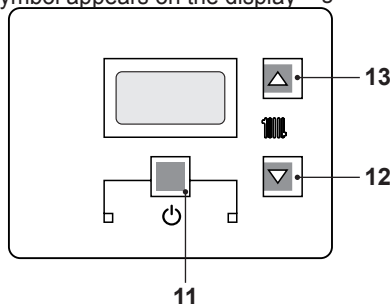

Fig. 7.11
- Press the 11 key for 2 seconds until  symbol appears on the display Fig. 7.11.
- Switch off the boiler by pressing the 11 (Fig. 7.11) key for 2 seconds until the  symbol appears on the LCD display (Fig. 7.10).
11 (Fig. 7.11) to reset its functioning.